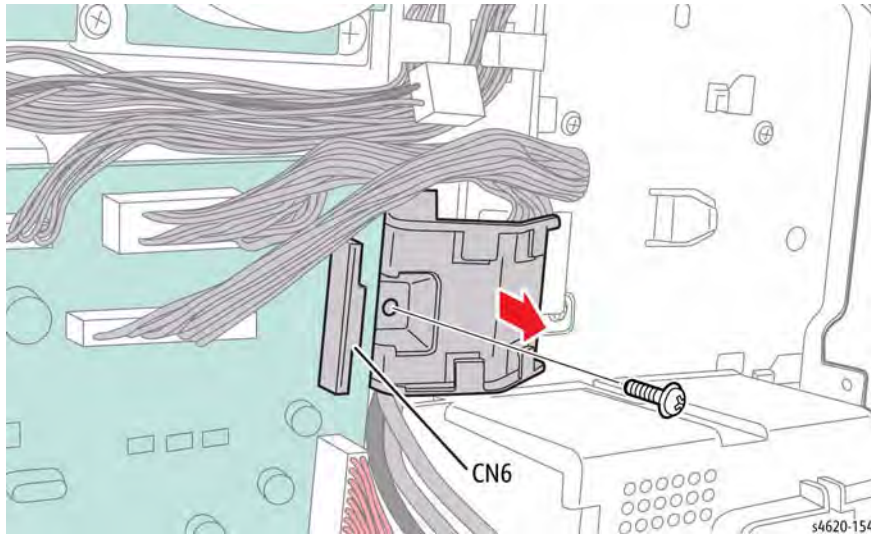

Figure 2 Remove the cable guide
10. Disconnect CN6 from the MCU Board, Figure 2.
11. Release the ribbon cable from the guide and remove 1 screw (metal) that secures the guide to the MCU Board bracket, Figure 2.